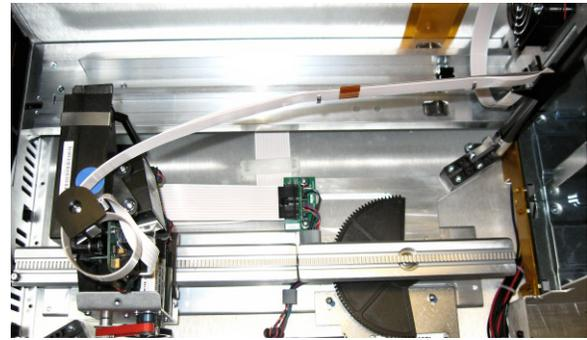

Figure 14. Flex Cable Position Around Shuttle Spooler
- b. Carefully lift the **shuttle** and position it at the open end of the track, checking that there are NO twists in the flex cable (Figure 14).